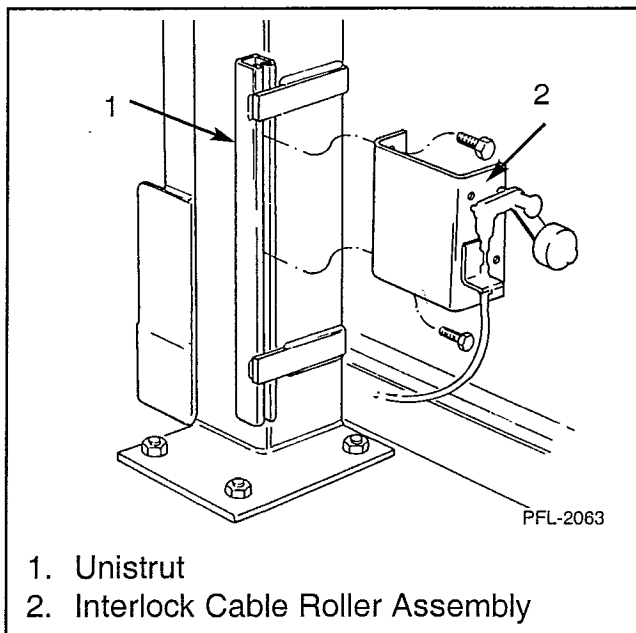

Figure 3
2. Attach the interlock cable roller assembly to the unistrut using spring nuts and bolts. See Figure 3.